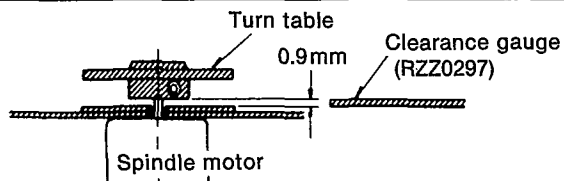

Fig. 2
1. Insert the 0.9mm clearance gauge (RZZ0297) between the turntable and the loading base. (Refer to Fig. 2).
Note: For the connection of oscilloscope's CH. 1 probe to servo P.C.B. on foil side, refer to fig. 2.